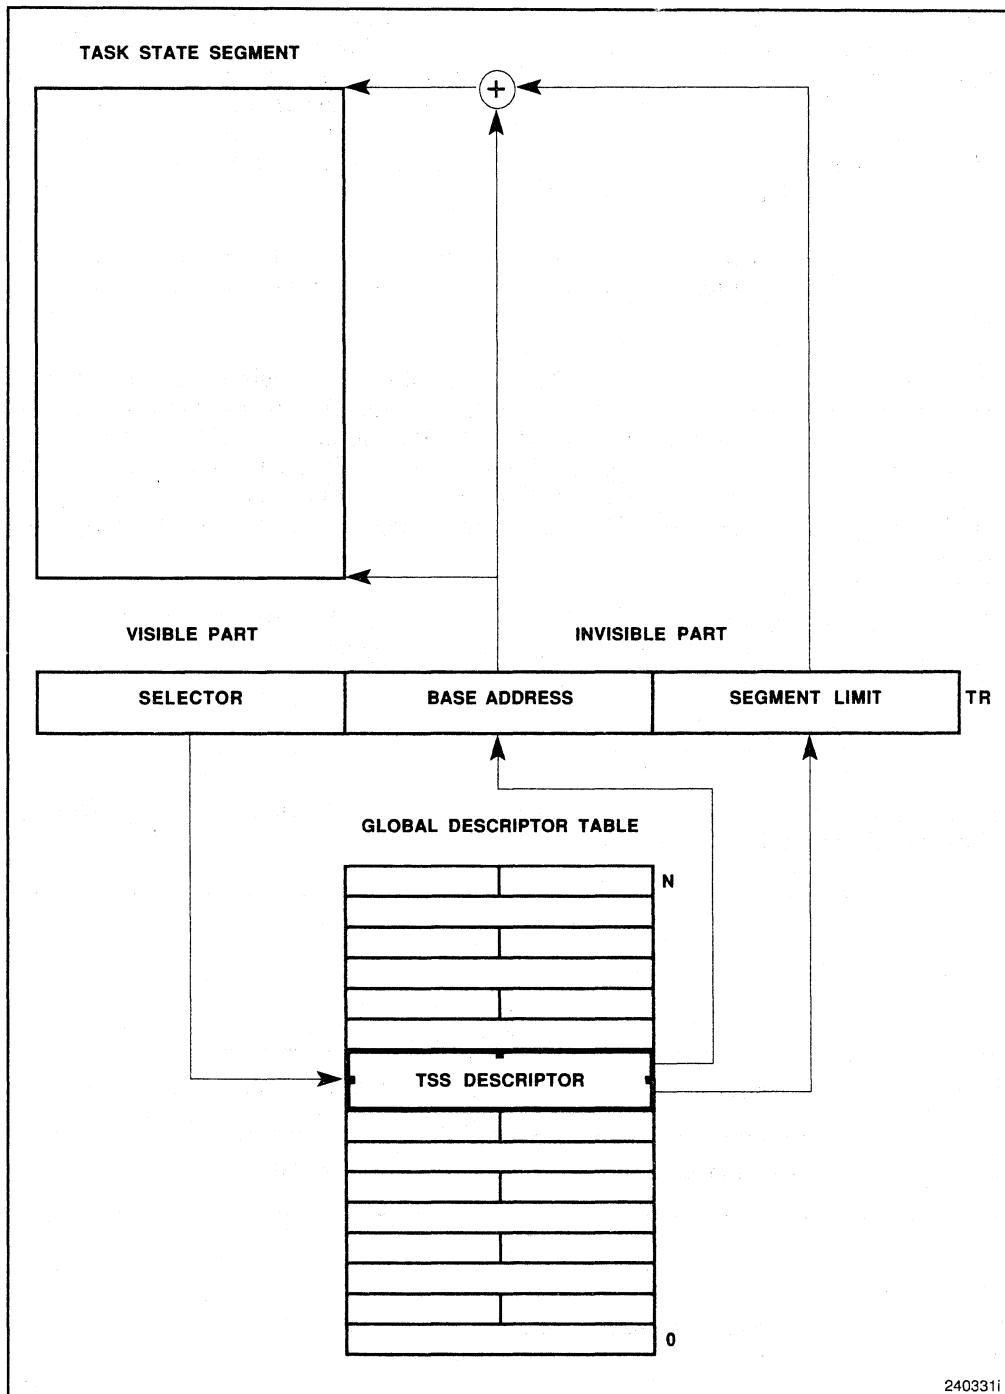

Figure 7-3. TR Register
The task register (TR) is used to find the current TSS. Figure 7-3 shows the path by which the processor accesses the TSS.